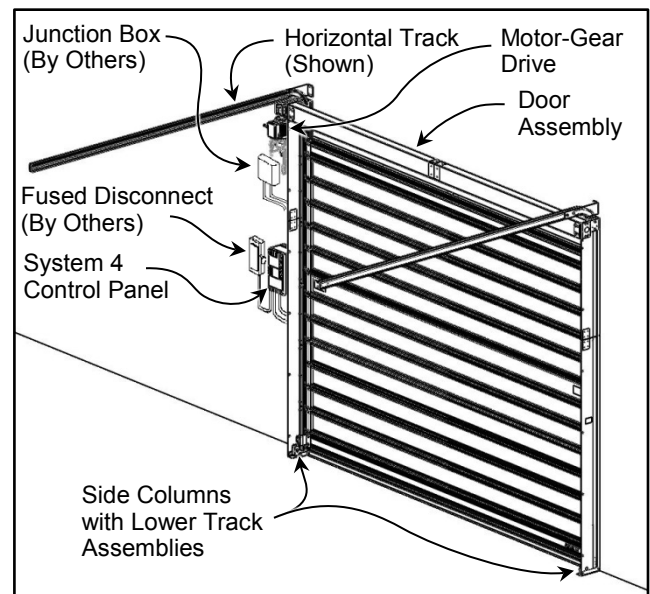

Figure 49
3. To ensure the correct parts are shipped, please include the serial number of your door with the order. The serial number is located on the front of both the left and right side column covers @ about eye level, on the drive motor gearbox in the head assembly, or on the door of the System 4 Control Panel. All these serial numbers should match. (See Figure 49)